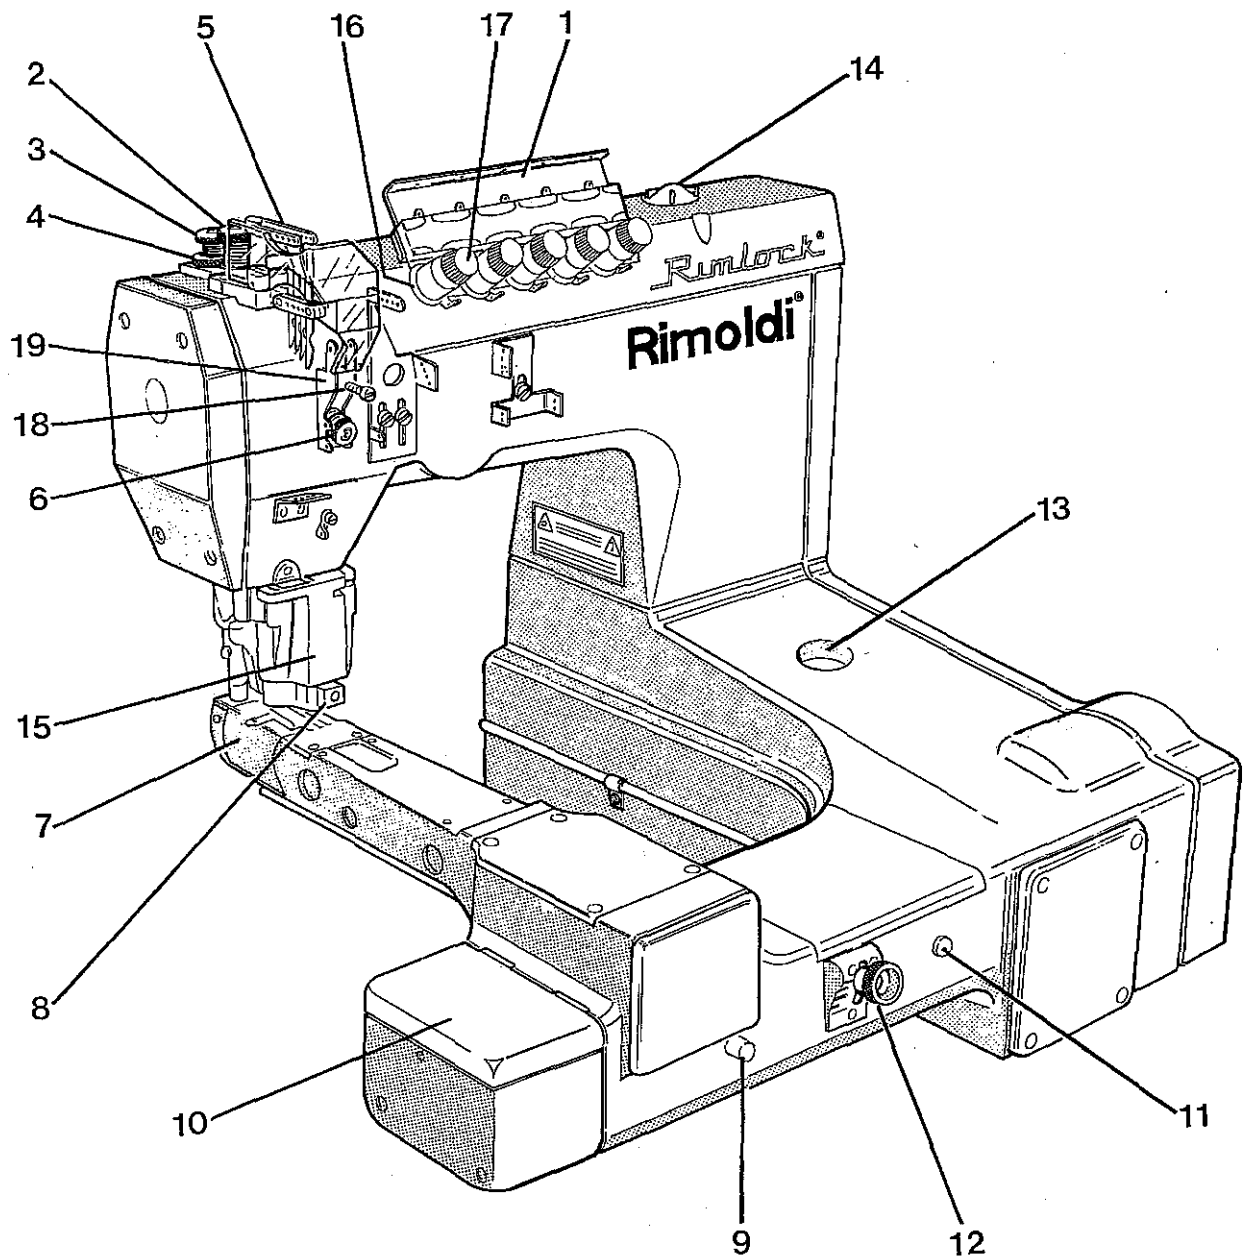

Fig. 1
## **ADJUSTMENT OF THE DIFFERENTIAL FEED (fig. 1)**
The stitch length can be varied using graduated handwheel (3) and push-button (9)(fig. 1).
### **Adjusting the needle thread tension (fig. 1)**
### **Threading and adjustment of the cover looper threads (fig. 1)**